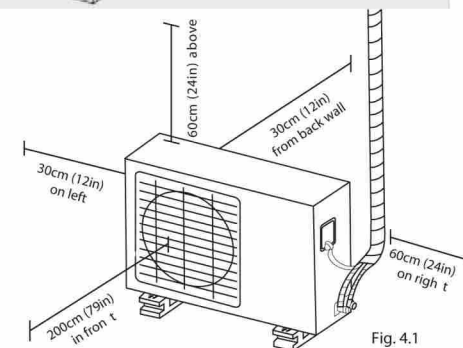

Fig. 4.1
- ☑ Meets all spatial requirements shown in Installation Space Requirements (Fig. 4.1)